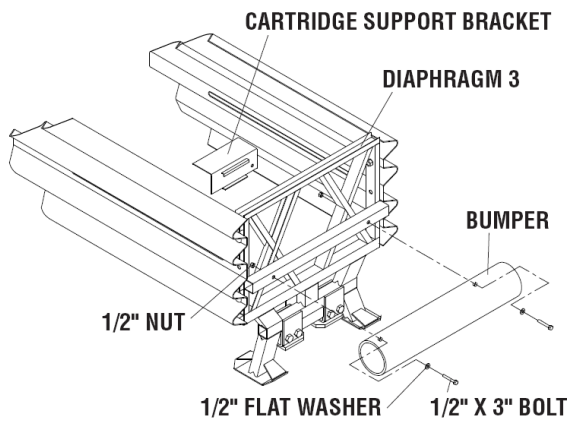

Figure 31
- A. Use 1/2" x 3" bolts, 1/2" flat washers and 1/2" nuts to attach Bumper to front of Diaphragm 3. Hang Cartridge Support Bracket onto the lower rear of Diaphragm 3 (Figure 31).